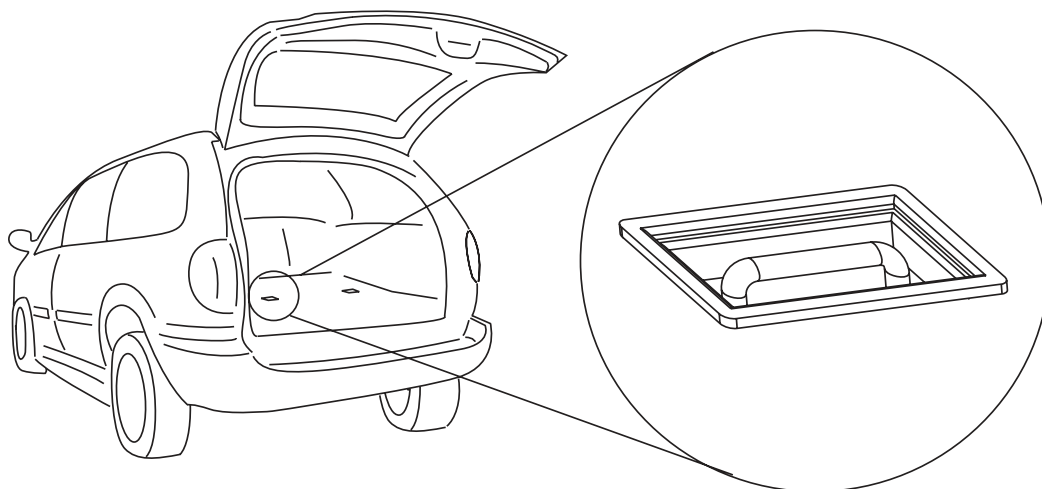

Figure 14-3
3. Examine the Floor for Additional Seat Attachment Points. These must be recessed into the floor. [Figure 14-3]